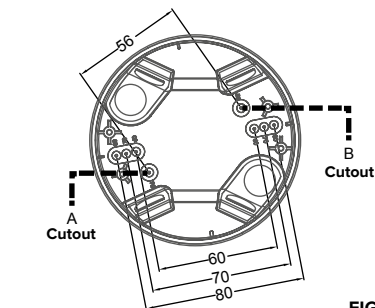

FIG. 11
1. Determine the correct distance of the mounting screws in the surface-mounted housing for mounting on a main distribution point. For this purpose, 4 pairs of recesses have been made in the housing, varying in distance from 56 to 80 mm so that the housing can always be mounted correctly on various built-in points. To do this, select a hole with the same distance on both sides (see also FIG. 11).